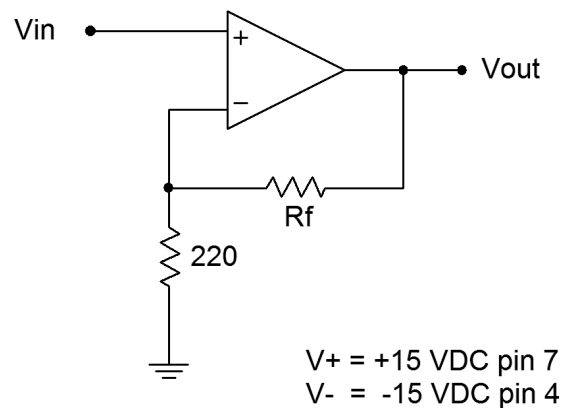

Figure 1
1. The upper break frequency,  $f_2$ , of the amplifier in Figure 1 can be determined from its voltage gain and the  $f_{unity}$  of the op amp. Calculate the  $f_2$  values for the amplifier of Figure 1 for the  $R_f$  values specified, and record them in Table 1.
2. Assemble the circuit of Figure 1 using the 4k7  $\Omega$  resistor.